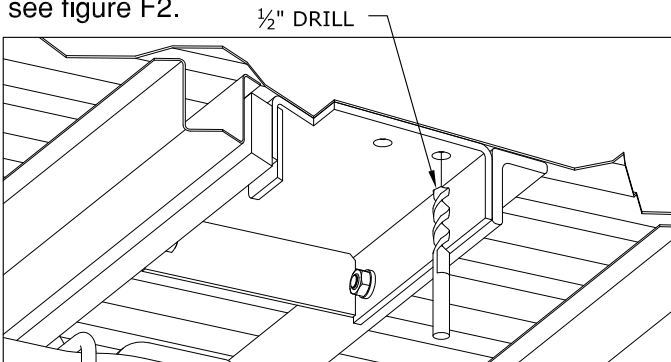

FIGURE F2: Cut away view from under the bed
1. **Drill the holes.** From under the bed use a drill and a  $\frac{1}{2}$ " drill bit to drill through the bed using the four holes that match up with a low rib in the truck as a guide. Remove any burrs created during the drilling process, see figure F2.